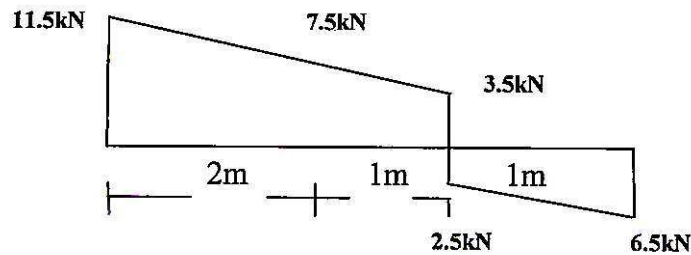

Fig. 4
- (b) The diagram shown in Fig. 4 is the shear force diagram for a beam which rests on two supports, one being at the left hand end. No couple is acting on beam. [6]